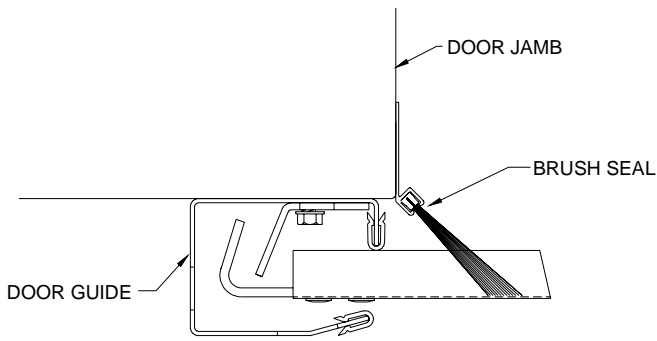

Figure 15.
12.2 Place the door in the closed position before installing the brush seal. Position brush seal so that it just touches the flat portion of the curtain. See Figure 15. Fasten brush seals to jamb every 12 inches with appropriate fasteners.